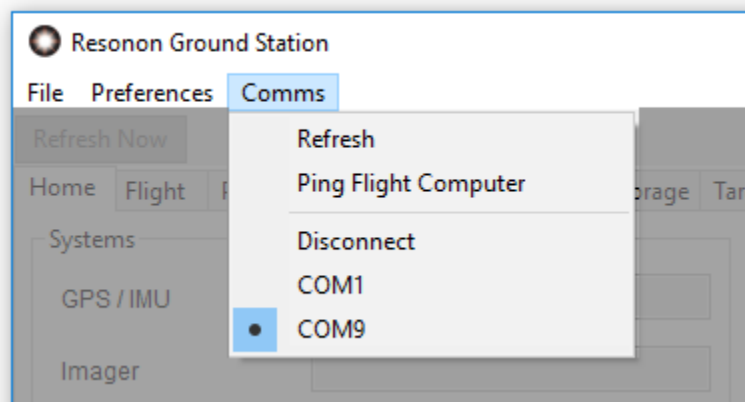

Fig. 3.2: COM port menu
- If the COM port setting is not correct, simply select the correct port from the **Comms** menu item. The system attempts to connect immediately. See Fig. 3.2.